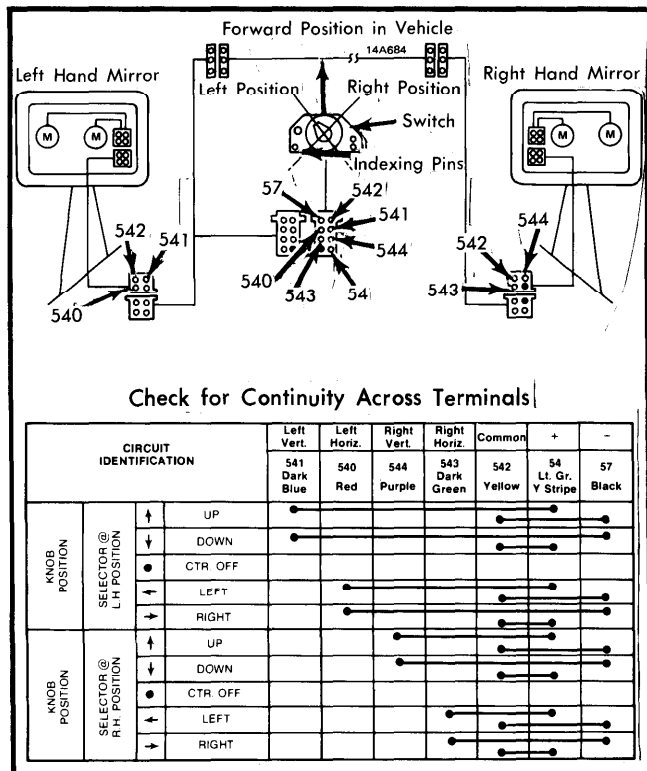

Fig. 1 Power Mirror Switch Terminal Locations and Continuity Test Chart
- 1) Check 15 amp fuse in fuse panel. If fuse is good, remove door trim panel and check for power to switch by connecting a test light across terminals 54 and 57. See Fig. 1.
- 2) If no power is present, connect terminal 54 to ground and check for open in terminals 54 or 57. If open, trace circuit and correct problem. If power is present, connect jumper wire across terminals as shown in Fig. 1, and check continuity.